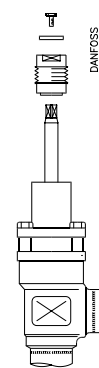

Fig. 6
**Removal of packing gland (fig. 6)**